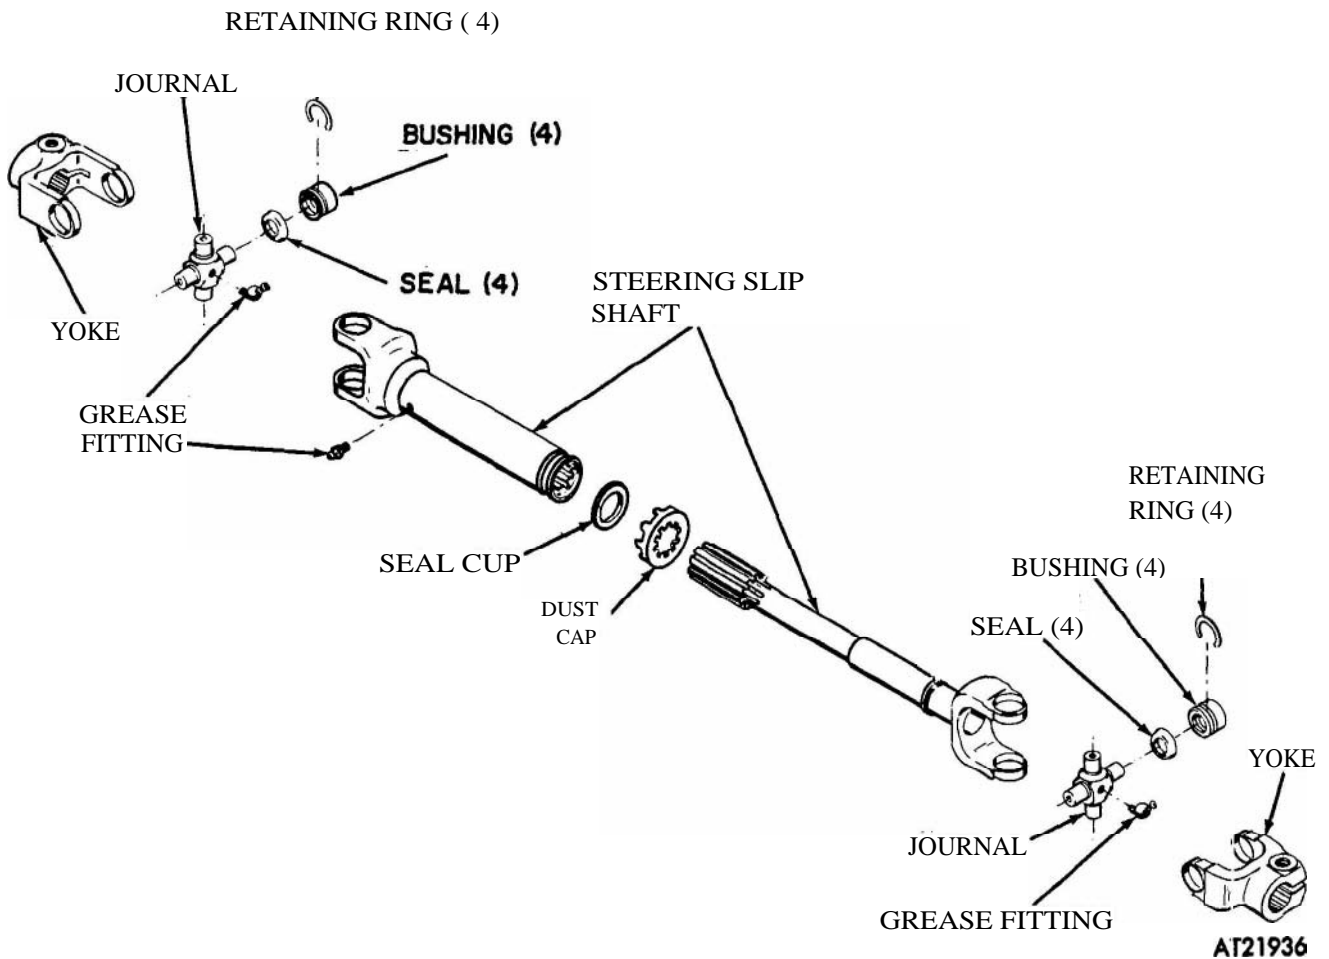

Figure 2-283. Carrier steering slip shaft, disassembly and assembly.
- (1) Assemble universal yoke and journal assemblies (refer to *para* 2-184 *d.* (1) and fig 2-283).
- (2) Assemble **slip-joint** seal and cap according to the following steps:
- (1) Position forward end of slip shaft assembly to tractor center torque tube assembly (fig. 2-283).
- (2) Position rear end of slip shaft assembly to carrier torque tube assembly.
- (3) Secure steering slip shaft assembly yokes to tractor and carrier torque tube assemblies with two screws, lock washers, and nuts. Torque **nuts** to 15-24 **lbs-ft.**
- (4) Service universal joints and slip **shaft** (refer to LO 9-2320-242-12).